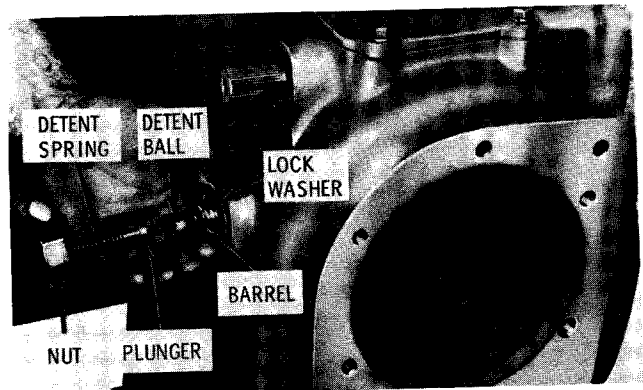
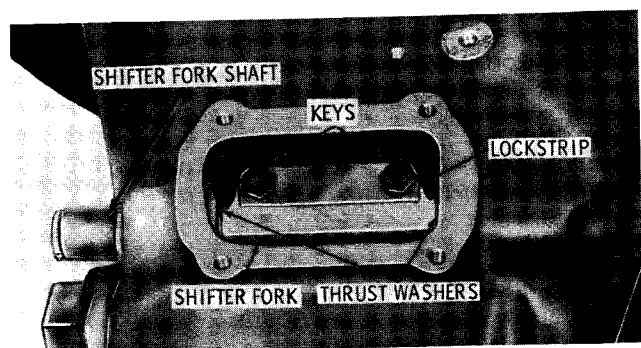

Fig. 5-39. Removing (or installing) shifter detent parts
Fig. 5-40. Shifter fork and shifter fork shaft
(1) Loosen bolt 8 (B, foldout 11) in shifter lever 11. Remove the lever from shifter fork shaft 6.
(2) Straighten the tang on the shifter detent lockwasher (fig. 5-39). Remove nut, detent spring, plunger, detent ball and lockwasher. Remove the barrel from the transmission housing.
(3) Remove four bolts 1 (B, foldout 11) and lockwashers 2 from shifter cover 3. Remove cover 3 and gasket 4 from the transmission housing.
(4) Straighten the lockstrip which retains the shifter fork bolts (fig. 5-40). Remove the bolts and lockstrip, then remove the keys.